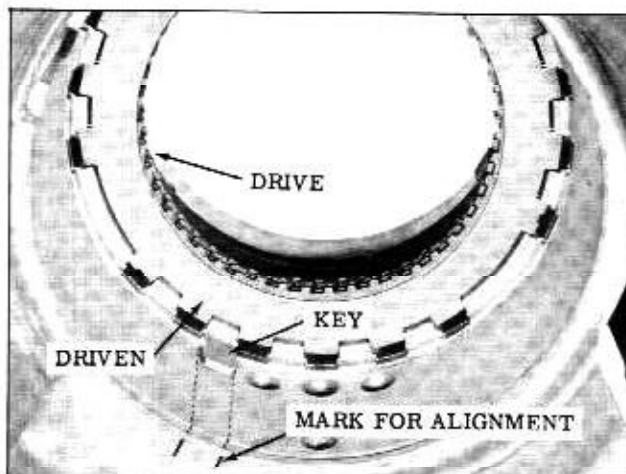

Fig. 3-101 Alignment Marks
5. Mark the case to indicate one side of the key to assist in alignment for installation of case support. (Fig. 3-101)